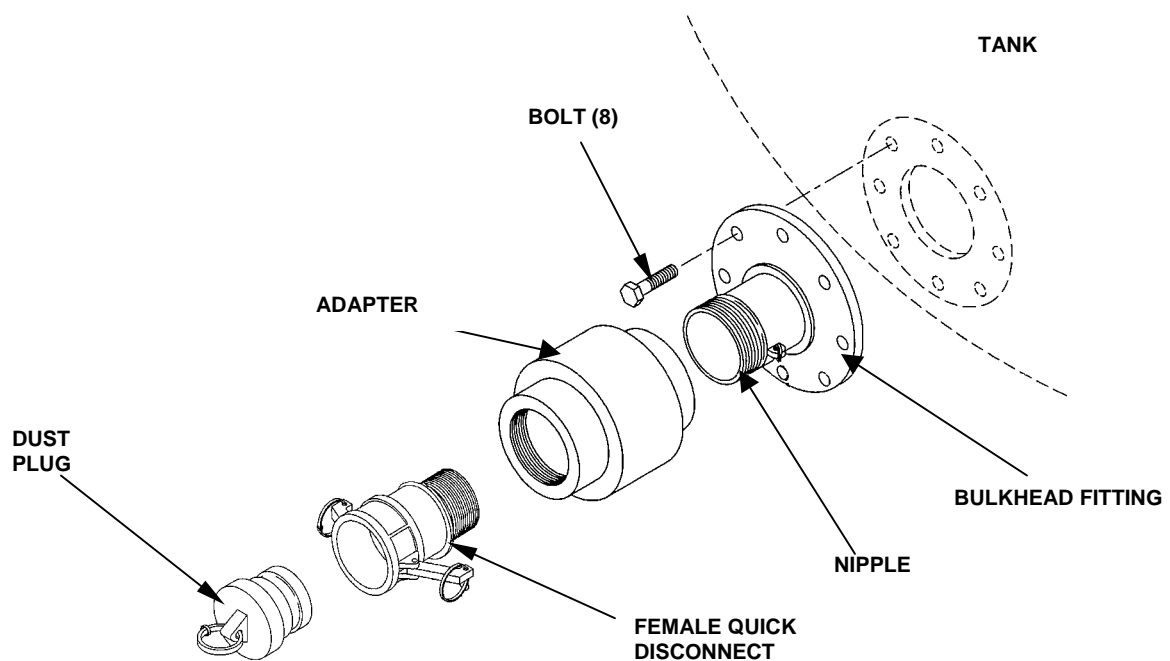

Figure 1. Settling and Product Tank Filler Fitting.
2. Unthread the female coupling from the adapter. See Figure 1.
1. Install the bulkhead fitting and secure with bolts. See Figure 1.